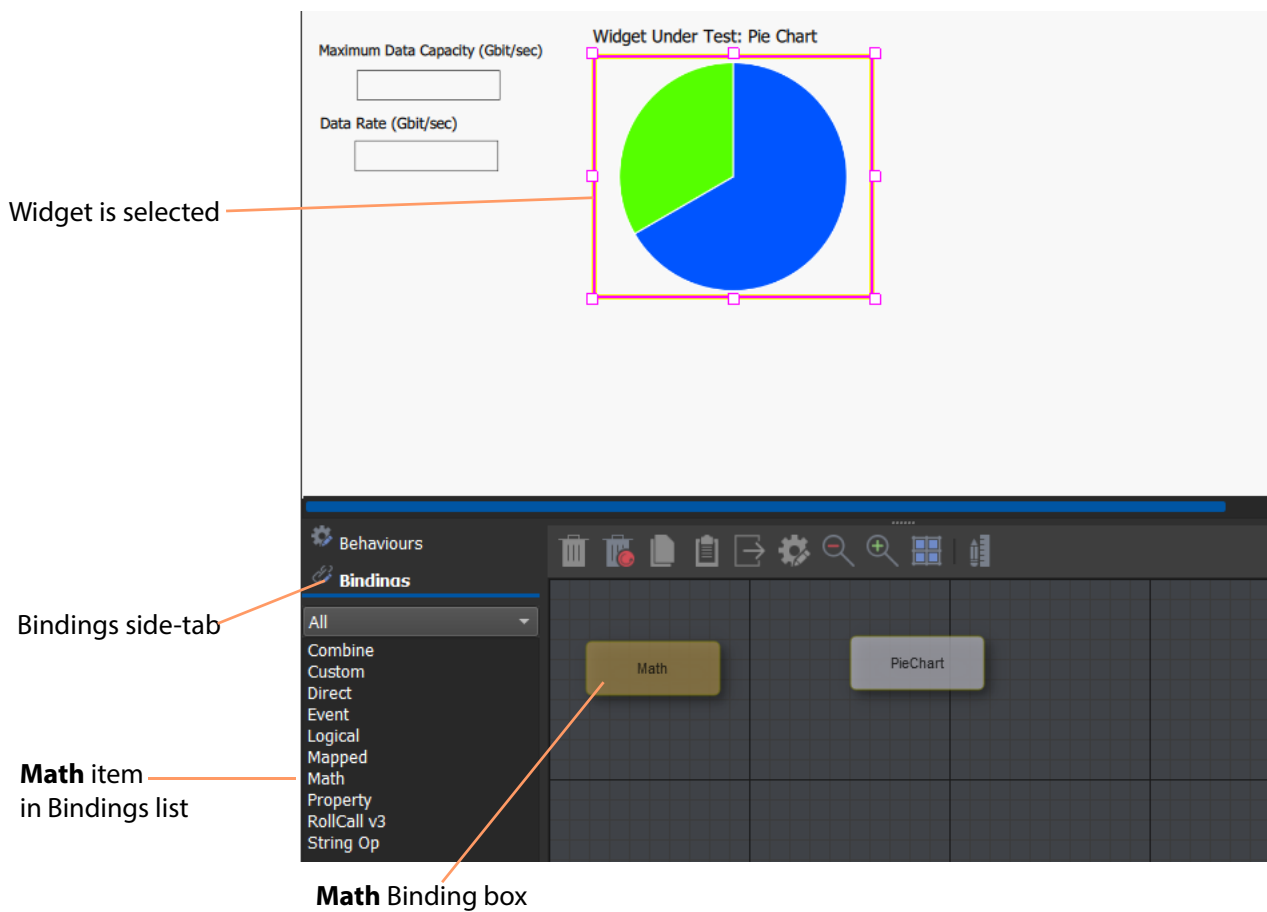

Fig. 3-9: Math Binding
- 3 Click the **Math** item in the Bindings list. A **Math** Binding box appears on the graphical editor. See Figure 3-9.